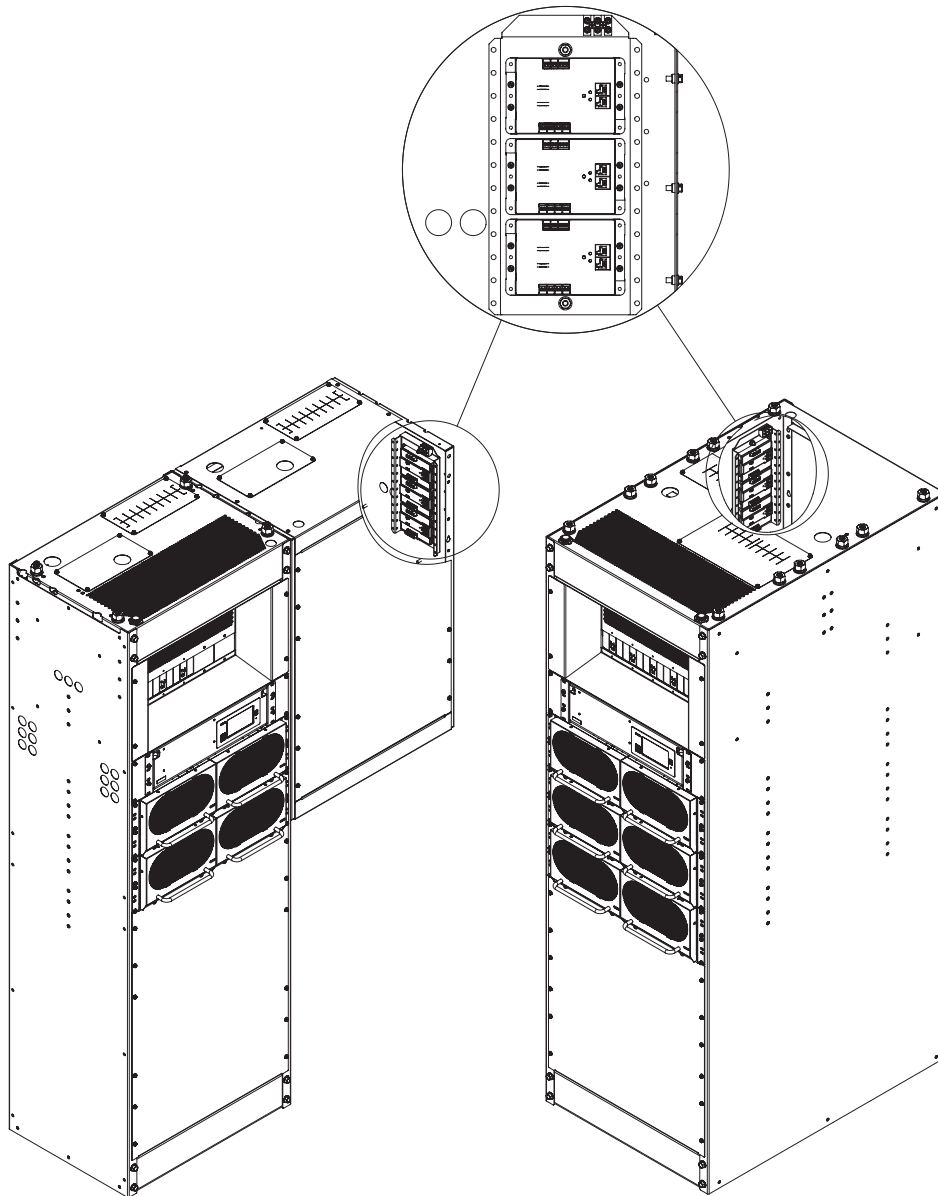

Figure 31 — Shunt Input Module Kit Installation in SBS or B2B Configurations
2. Mount the kit to the bay wall studs at location shown in Figure 31 using the supplied hardware.